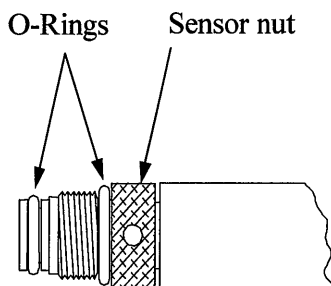

Figure 3.4 O-ring Lubrication
- 4.** Apply a thin coat of o-ring lubricant (supplied in the YSI 5511 maintenance kit) to the o-rings on the connector side of the sensor (see Figure 3.4 O-ring Lubrication).